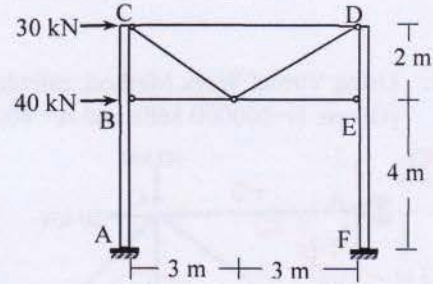

Fig.7
6. Use Portal Method to draw the bending moment diagrams of columns **ABC** and **DEF** of the mill bent shown in **Fig.7**. [05]